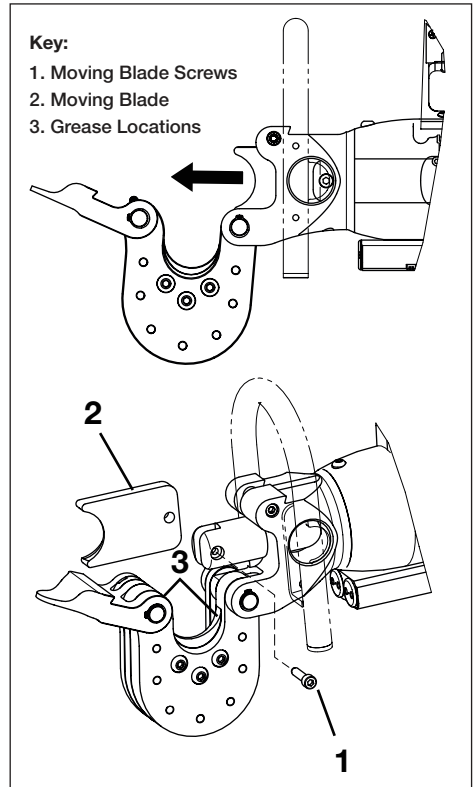

Figure 13, Moving Blade Replacement
Replace the moving blade as described in the following steps. Refer to Figure 13, items 1, 2 and 3.
5. Loosen and remove the moving blade screw (Figure 13, item 1).
6. Remove the worn moving blade (Figure 13, item 2).
7. Install new moving blade (Figure 13, item 2) into the piston.
8. Install the new moving blade screw (Figure 13, item 1). Torque to 18 ft-lb [25 Nm]. Apply Loctite 243 or equivalent.
9. Lubricate the slide slot and the tool guide in the cutting head (Figure 13, item 3) using an NLGI Grade 2 extreme pressure lithium grease.